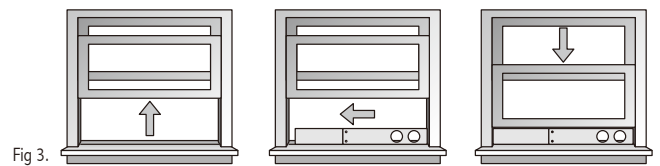

Fig 3.
**C. Install the Window Slider Kit : Fig 3.**